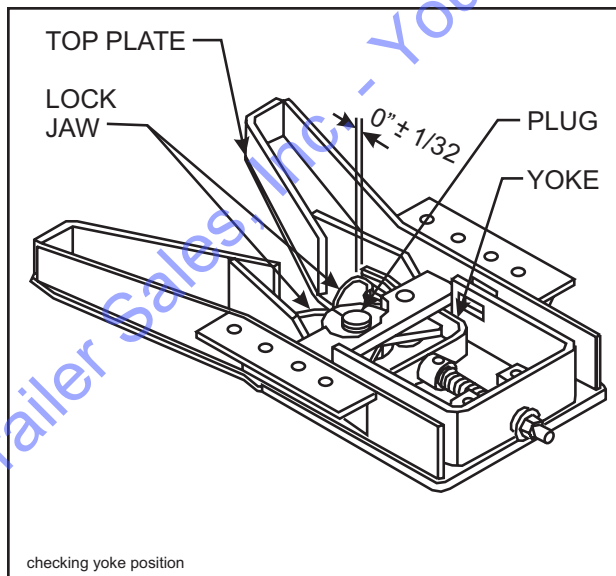

Figure 4-6 Checking Yoke Position
- i. Check the position of the yoke tips. They must be flush with the ends of the locks or must not extend more than 1/32" beyond the ends of the locks (**See Figure 4-6**). If the yoke are short of the ends of the locks, it will be necessary to grind the outside surfaces of the yoke with a belt sander or grinder until it fits precisely into place (**See Figure 4-6**). If the yoke extends beyond the ends of the locks, it will be necessary to build up the contact surface of the yoke with weld using a low hydrogen E70XX welding rod and grind the surfaces back down to the proper fit (**See Figures 4-6 and 4-7**).